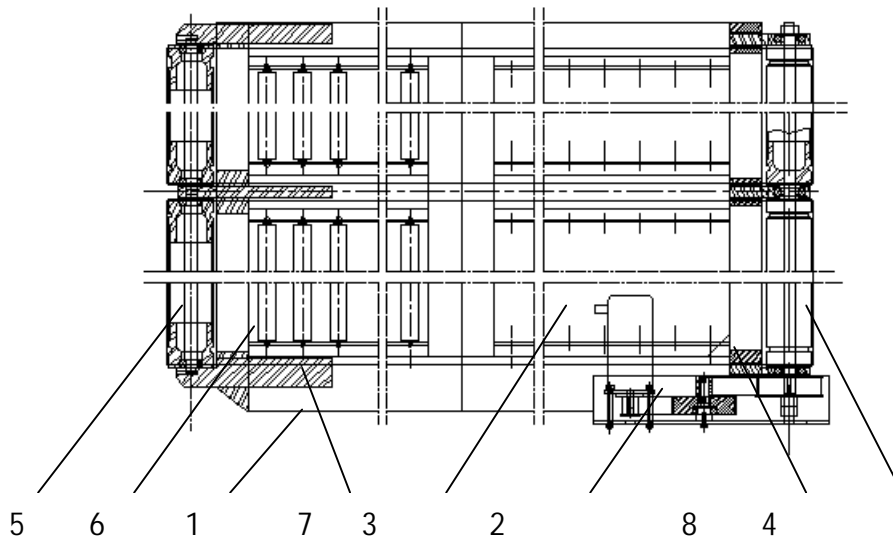

Fig 3.2.1 Structure Conveyor belt rack platform
3.2 The work frame platform of the conveyer belt (Fig.3-2-1) is the process platform for products and it is welded by cubic pipe 1, The drive device is made up of X axle transmission 2 and conveyer belt 3, the conveyer is supported by big and small rollers, in front is voluntarily roller 4, the back side is driven roller 5 and the assist roller 6 is in the middle, the driven roller is fixed by slippery roller 7, voluntarily roller is supported by fixed arm 08, the conveyer adopts a interface without sewn and is lead by a lead bar. The front rooler and the one behind must be tight after the conveyer belt is installed, and adjust the conveyer belt's position so that the two conveyer belts will move in a horizontal direction parallels, The X transmission system is also driven by stepper motor and hold the voluntarily roller through the synchronous belt and synchronous wheel, so that the movement in front